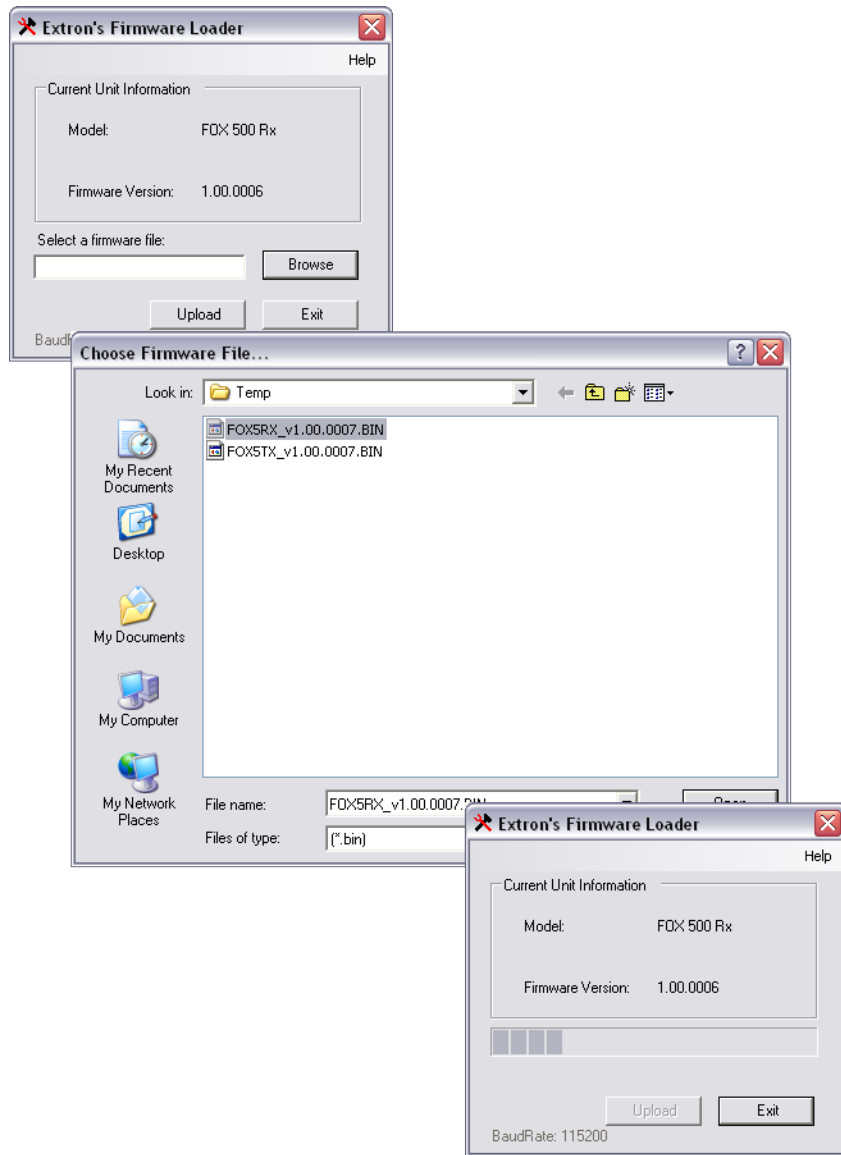

Figure 3-9 — Open window
5. Click **Tools > Update Firmware**. The Extron Firmware Loader appears (figure 3-9).